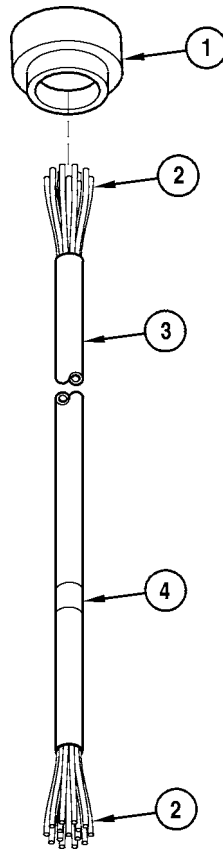

Figure 2-23. Transmission Cable
2. Connect seven AWG 4 electrical leads (2) measured in step 1, to electrical plug connector (1).
3. Label leads (2), using band markers (4), from pin A, 364; pin B, 363; pin C, 362; pin D, 361; pin E, 360; pin F, 359; and pin G, 358.
4. Install electrical insulation tape/sleeving (3) on all leads (2). See Figure 2-23.